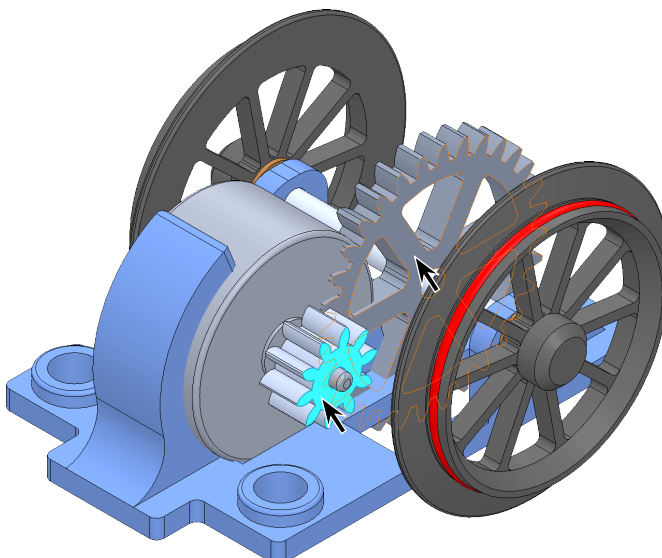

Fig. 35
Step 4. Click **outside face of both Gears**, Fig. 35.